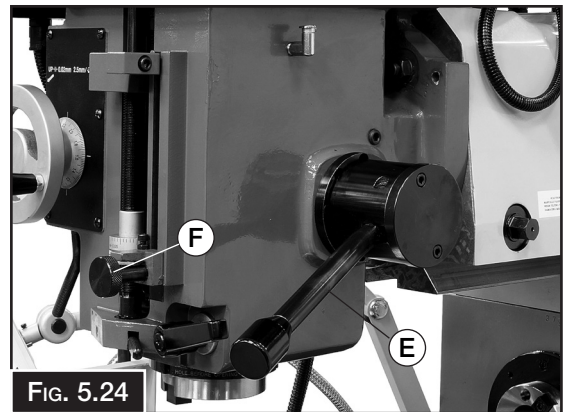

FIG. 5.24
2. Move the Course Down Feed Handle (E in Fig. 5.24) to the left to engage the handle and then the spindle can be moved up or down.
3. The quick action dead stop can be set by loosening the dead stop knob (F in Fig. 5.24) and sliding the dead stop up or down as required.